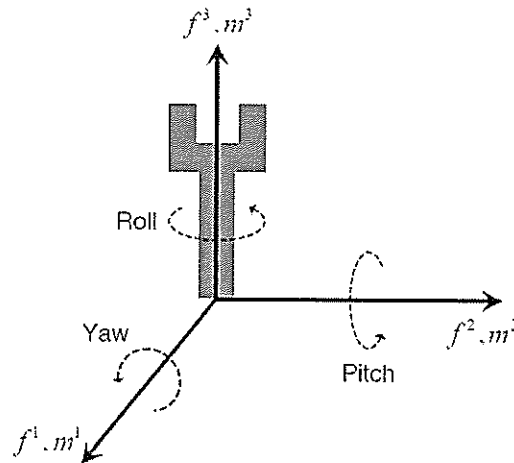

Fig. Q2
- a) Consider the robotic tool shown in Fig. Q2. Suppose we yaw the tool by  $\pi/2$  about  $f^1$ , then pitch the tool by  $-\pi/2$  about  $f^2$ , and finally roll the tool by  $\pi$  about  $f^3$ .